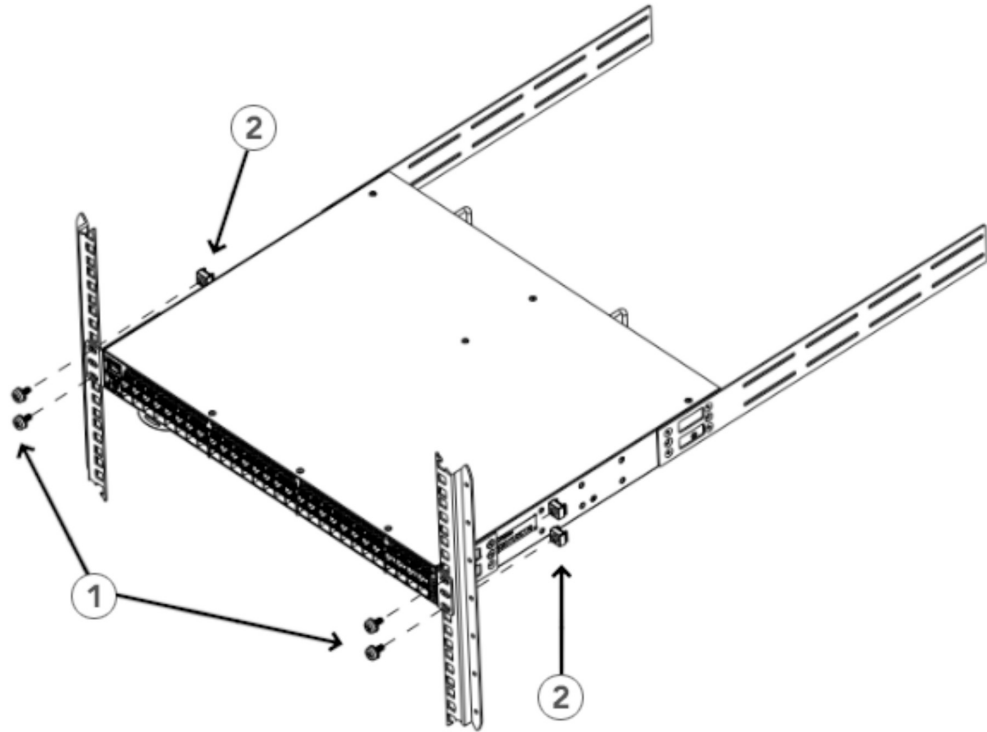

Figure 6. Positioning the Device in the Rack
1. Position the device in the rack, as shown Figure 6. Provide temporary support under the device as you secure the rail kit to the rack.